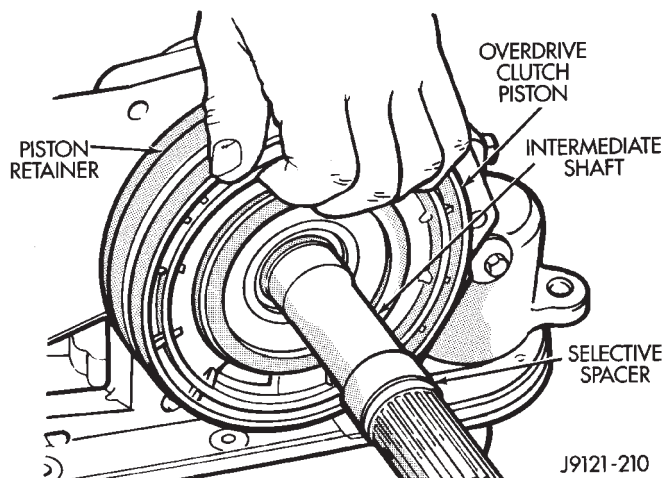

Fig. 128 Overdrive Piston Removal
(13) Remove overdrive piston from retainer (Fig. 128).